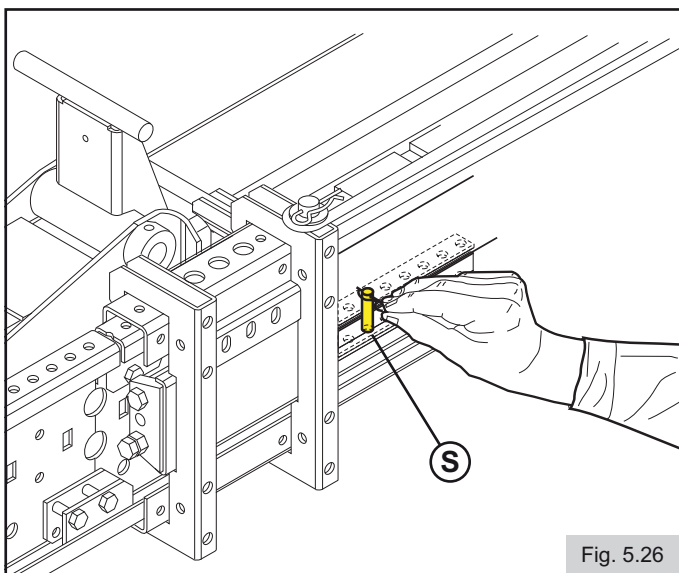

Fig. 5.26
- Remove pin **S** from both hands (Fig.5.26).